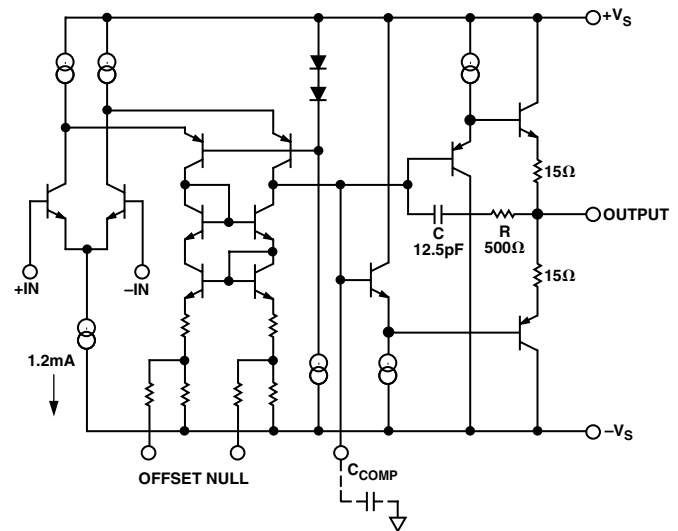

Figure 6. Simplified Schematic
The AD829 is fabricated on Analog Devices' proprietary complementary bipolar (CB) process, which provides PNP and NPN transistors with similar  $f_T$ s of 600 MHz. As shown in Figure 6, the AD829 input stage consists of an NPN differential pair in which each transistor operates at 600  $\mu$ A collector current. This gives the input devices a high transconductance, which in turn gives the AD829 a low noise figure of 2  $\text{nV}/\sqrt{\text{Hz}}$  @ 1 kHz.
An RC network in the output stage (Figure 6) completely removes the effect of capacitive loading when the amplifier is compensated for closed-loop gains of 10 or higher. At low frequencies, and with low capacitive loads, the gain from the compensation node to the output is very close to unity. In this case, C is bootstrapped and does not contribute to the compensation capacitance of the device. As the capacitive load is increased, a pole is formed with the output impedance of the output stage this reduces the gain, and subsequently, C is incompletely bootstrapped. Therefore, some fraction of C contributes to the compensation capacitance, and the unity gain bandwidth falls. As the load capacitance is further increased, the bandwidth continues to fall and the amplifier remains stable.